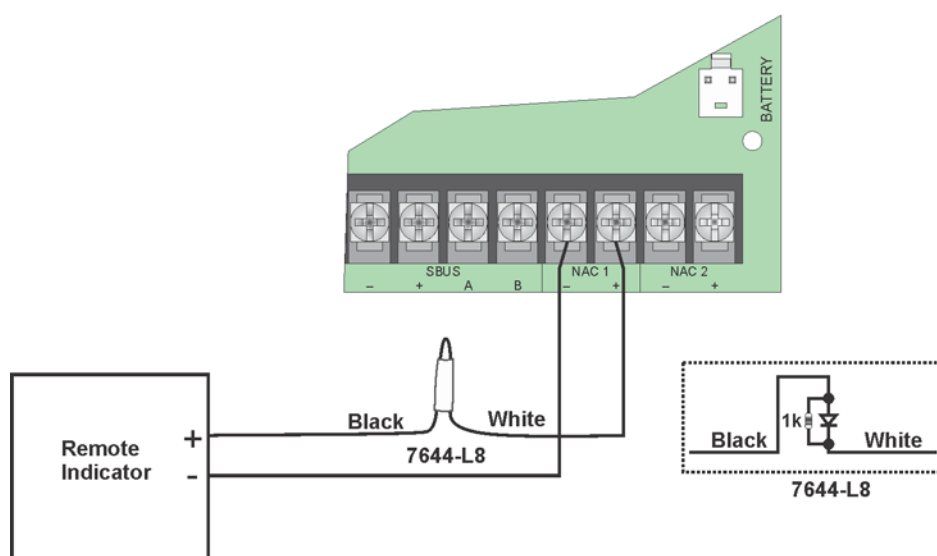

Figure 4-36 Polarity Reversal Connection Using the 7644-L8
1. Wire the 7644-L8 to the control panel as shown in Figure 4-36. Do not install an EOL resistor on the terminals of the NAC circuit used.